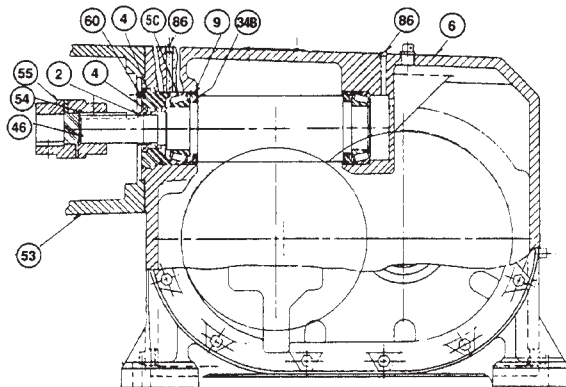

Figure 3
# INSTRUCTIONS FOR DISASSEMBLY AND REASSEMBLY OF SIZE 40 & XL COMBINATION GEARMOTORS AND C-FACE REDUCERS (Refer to Figures 3, 4 & 5)
3. Remove screws holding the bearing housing (45) opposite output shaft, tap housing to loosen at the gasketed joint, then remove from the gearcase (6).
4. Lift out the output shaft assembly (17) and intermediate shaft assembly (19).
5. To remove input shaft assembly (46) loosen the bearing cap locking screw (60) (Fig. 3), install face type spanner tool in the two pin holes in the face of the oil seal bearing cap assembly (4) and unscrew counterclockwise and remove. Pull input shaft assembly including bearings (5C) and grease retainer (34B) with 'O' ring from gearcase.
Retighten bearing cap lock screw (60) (Fig. 3) to 75 inch lbs.